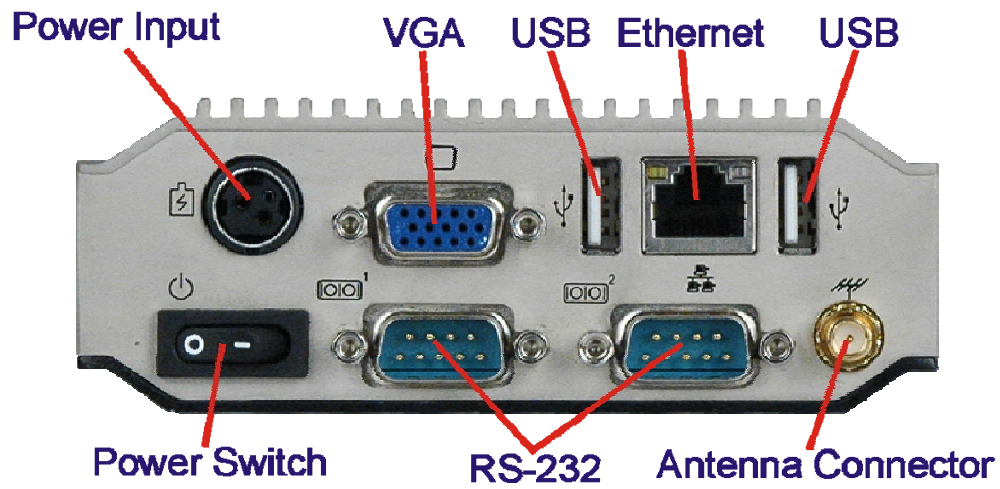
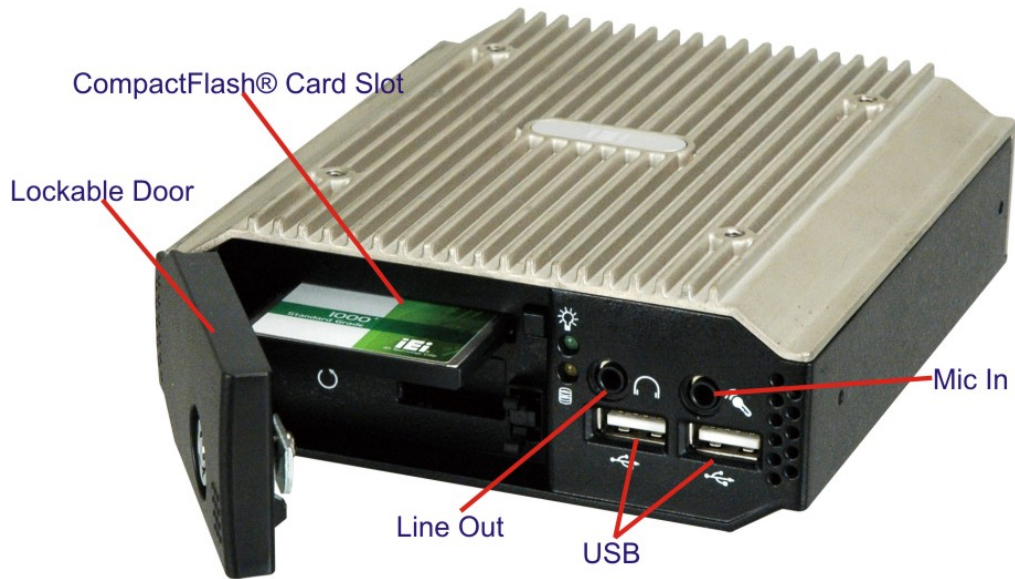

Figure 4-5: Peripheral Connectors (Rear)
Figure 4-6: Peripheral Connectors (Front)
- CN Location:** See Figure 4-5
CN Location: See Figure 4-5
- CN Location:** See Figure 4-5 and Figure 4-6